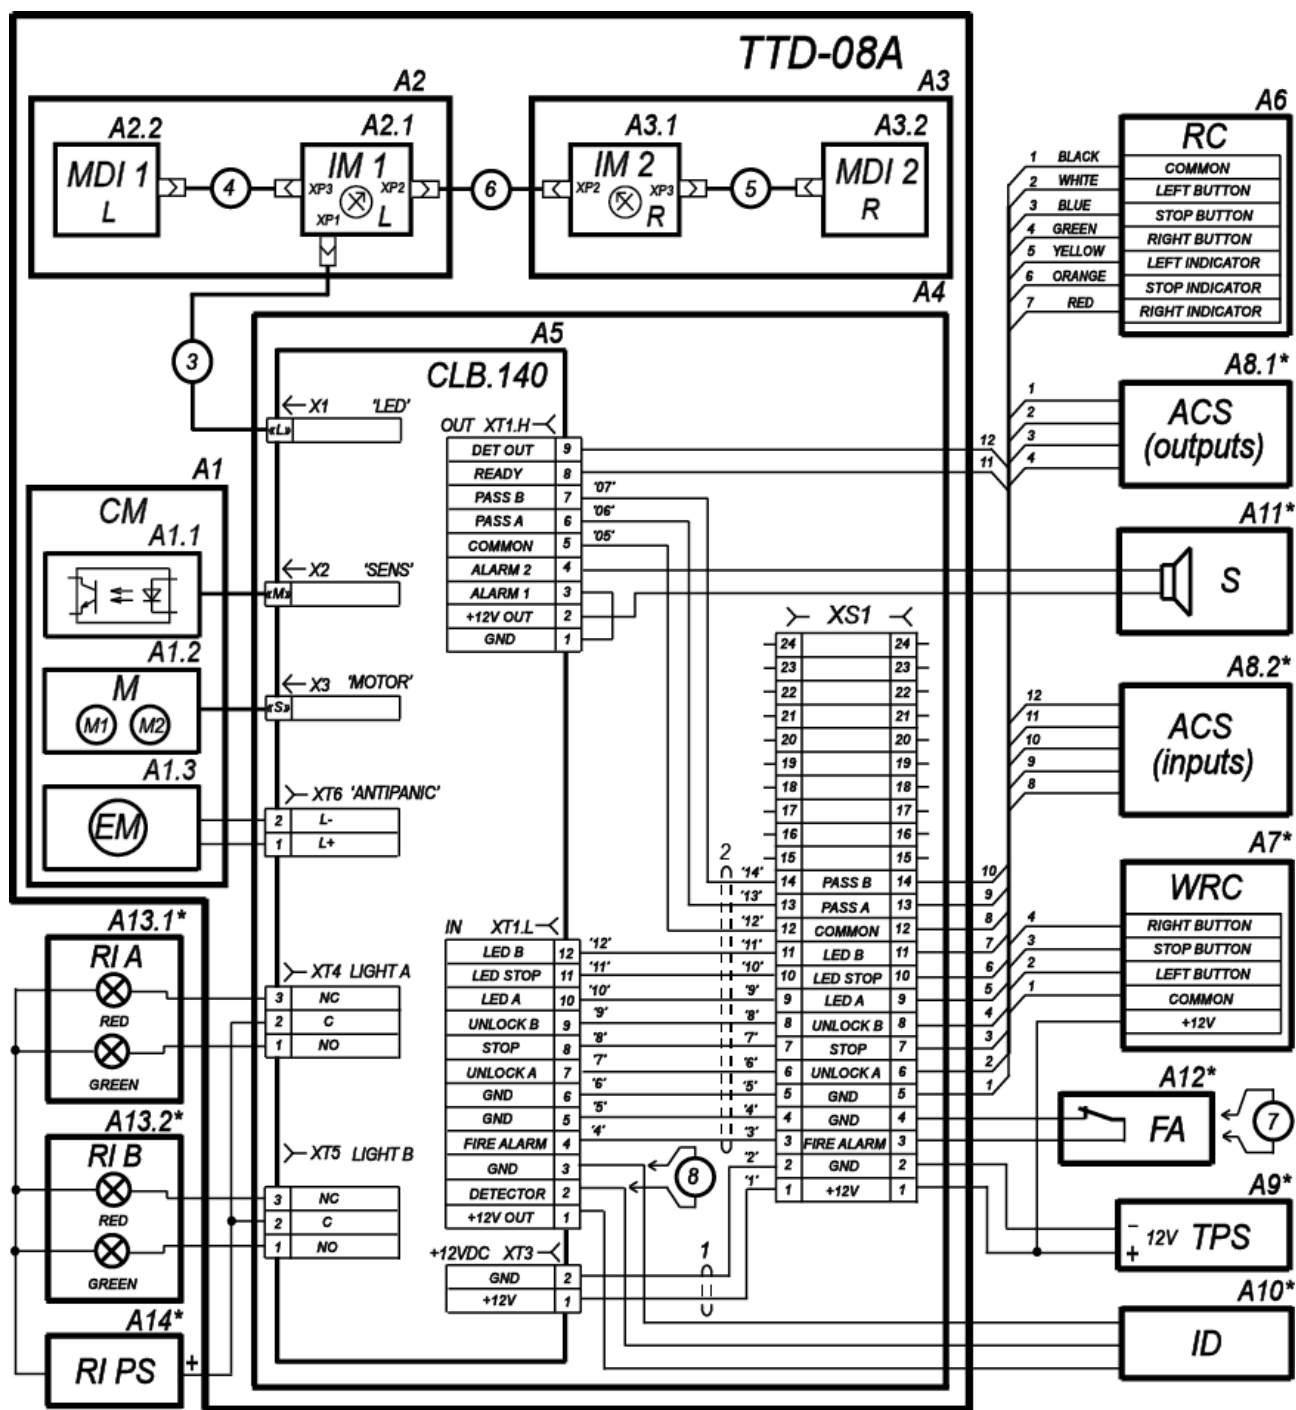

Figure 13 – Connection layout of the TTD-08A turnstile and optional equipment ¹
- 7 – indication cable (3 on Fig. 13);
- 8 – intermediate indication cable from IM1 to IM2 (6 on Fig. 13);
4. Connect the power cable (13) to a connector block **XS1** (Ref. Fig. 13).
5. Connect the cable of the RC panel (12) to a connector block **XS1**.